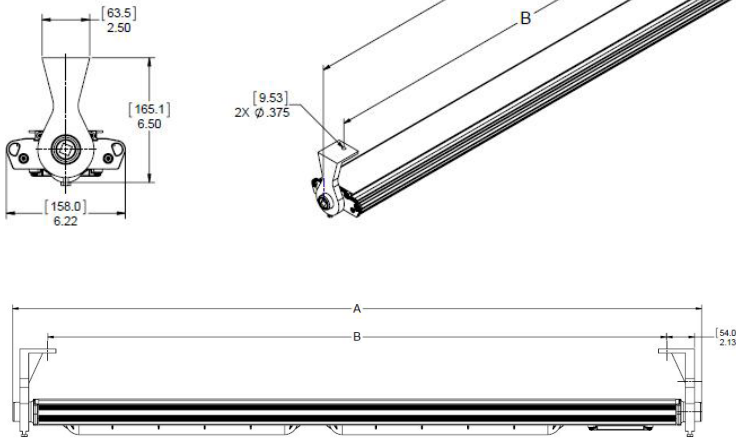

Figure 2. DP1053MTK Wall/Ceiling Mount Installation
7. Mark and drill holes for fastening end brackets. Use two (2) 1/4" bolts (not supplied) at center to center measurements (see Figure 2).
8. Fixture is now ready for mounting. It is strongly suggested to use two (2) qualified tradespeople to proceed with the final mounting of the fixture. This is recommended to avoid any personal injury or damage to the fixture.